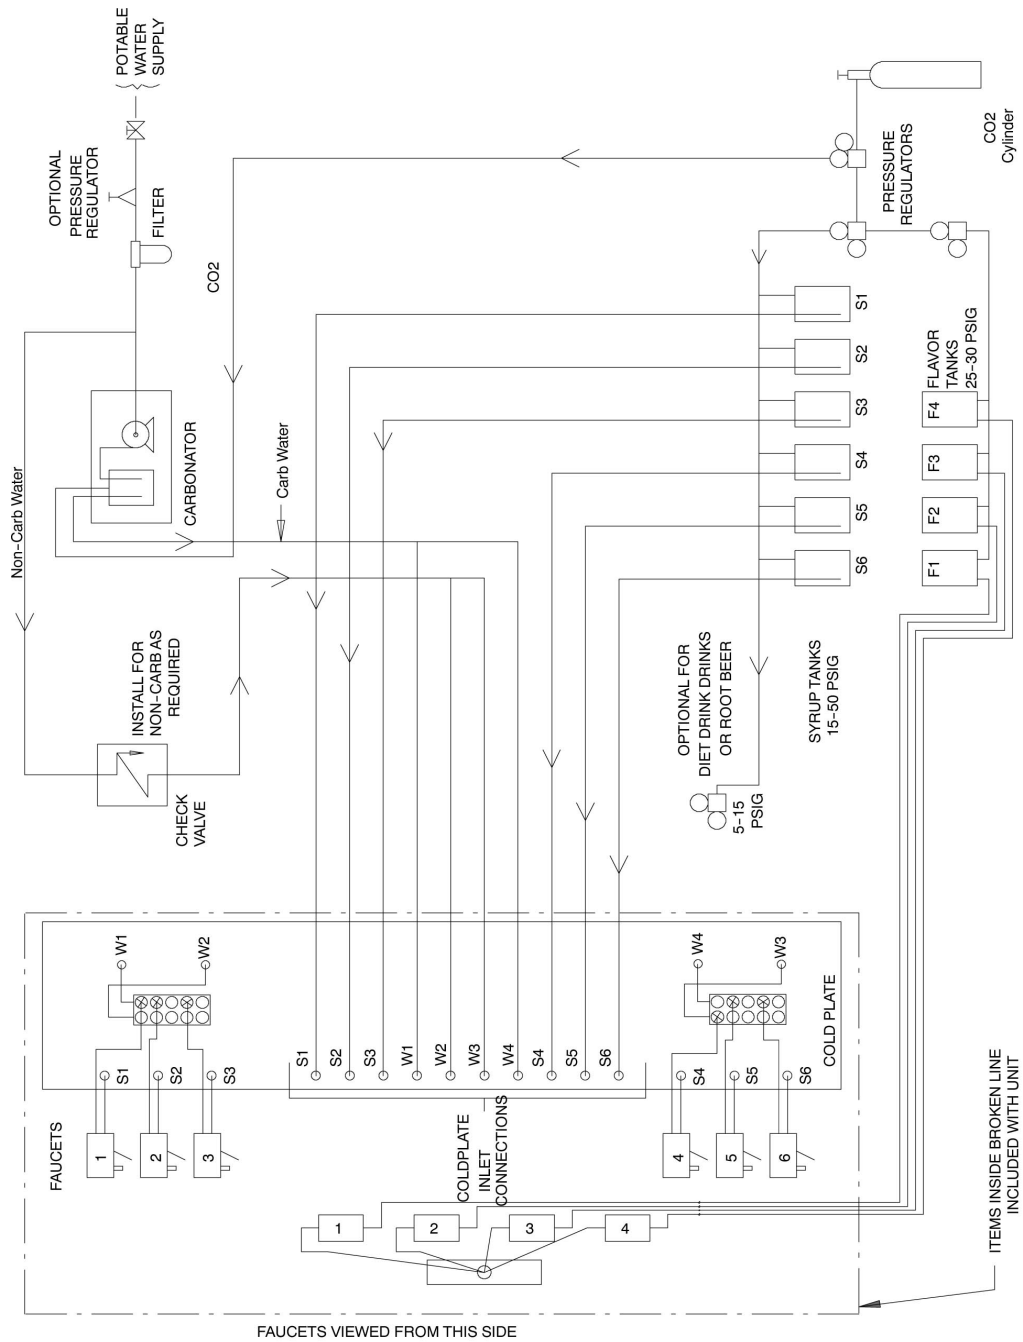

Figure 5. Flow Diagram (Unit with Six Faucets)
**NOTE: See applicable Flow Diagram (see Figure 5, 6, 7, or 8) or decal on lower front panel of the unit for the location of syrup and water connections.**